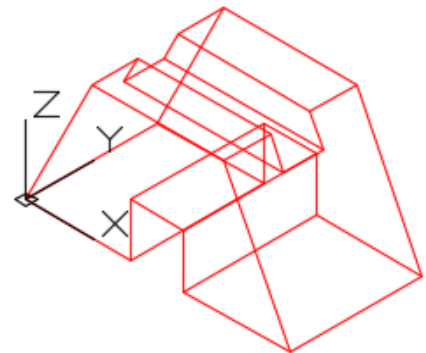

Figure Step 3A
Step 3 On layer: Surface 3, create surface faces on each side including the back and bottom. (Figure Step 3A and 3B)